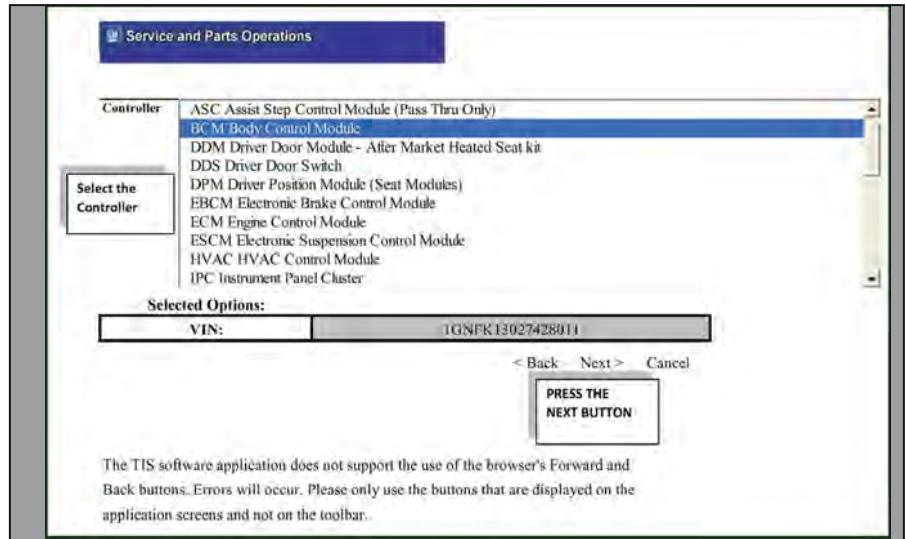

Figure 3
3. At the new screen, highlight the controller you wish to check for calibration. Click Next (figure 3).